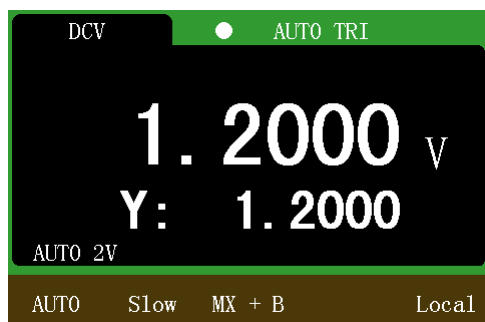
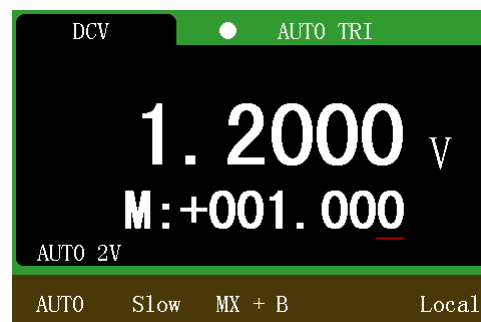

Figure 5-3 MX + B measurement interface
Figure 5-4 M value modified interface
Press **SHIFT** + **MAX** key combination to select the MX + B function, as shown in Figure 5-3.
- 2) In the interface shown in Figure 5-3, press the Enter key to call up the M value modification interface, as shown in Figure 5-4. The value of M can be modified by the use of up / down / left / right arrow key.
- 3) In the interface shown in Figure 5-4, press the Enter key to call up the B value modification interface. The value of B can be modified by the use of up / down / left / right arrow key.